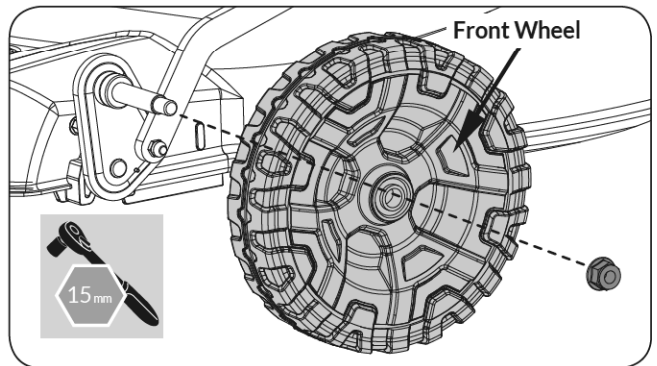

Figure 48
3. Assemble the new wheel with wheel nut. (See **Figure 48**)